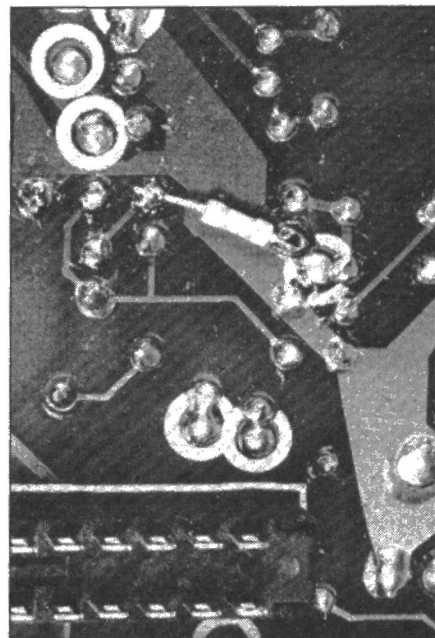
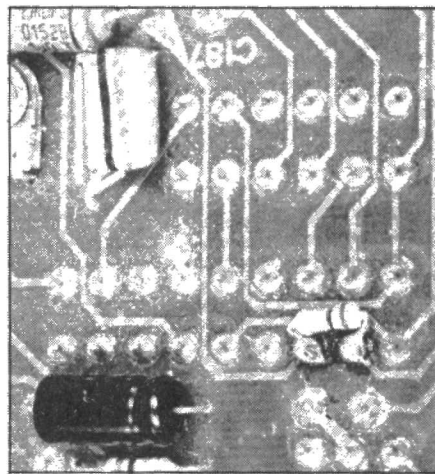

Figure 15. Elimination of click on Wah switch (underside).
Figure 16. Elimination of click on Wah switch (topside).
26. Some constructors have noticed an audible click or thump when Wah is turned on for the first time. To eliminate this, add two resistors. One, a Min Res 470k should be connected under the pcb between the collector and emitter of TR51. See Figure 15. The second, a Min Res 100k, is connected on the top side of the pcb at S34, between the centre and back pins of the left side of section 'a'. See Figure 16.